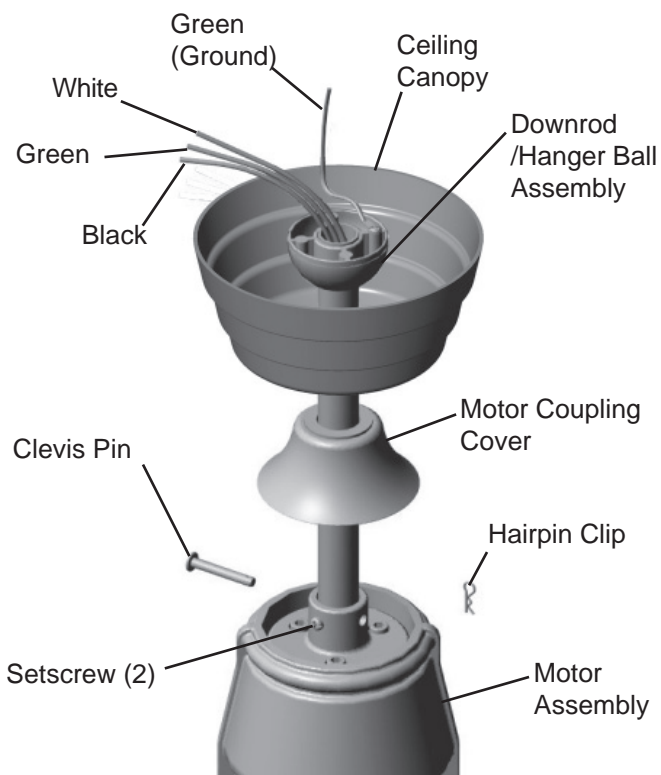

Fig. 5
14. Loosen the two setscrews in the downrod support. Align the clevis pin holes in the downrod with the holes in the downrod support. Install the clevis pin and secure with the hairpin clip (Fig. 5). The clevis pin must go through the holes in the downrod support and the holes in the downrod. Be sure to push the straight leg of the hairpin clip through the hole near the end of the clevis pin until the curved portion of the hairpin clip snaps around the clevis pin. The hairpin clip must be properly installed to prevent the clevis pin from working loose. Pull on the hanger ball to make sure the clevis pin is properly installed.
15. While pulling up on the hanger ball, securely tighten the two 3/16-24 x 3/8" setscrews in the downrod support (Fig. 5).